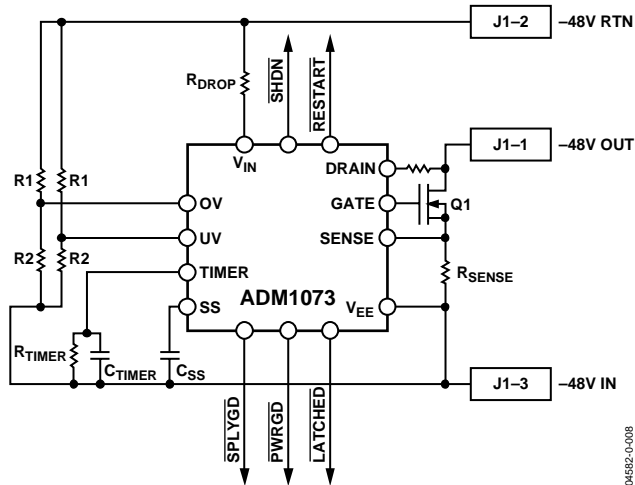

Figure 8. Micro Evaluation Board Functional Block Diagram
- You can custom-build a board to simulate a plug-in module's load and plug it into Edge Connector J9. (See Figure 8 for a schematic of the J9 pin diagram.)